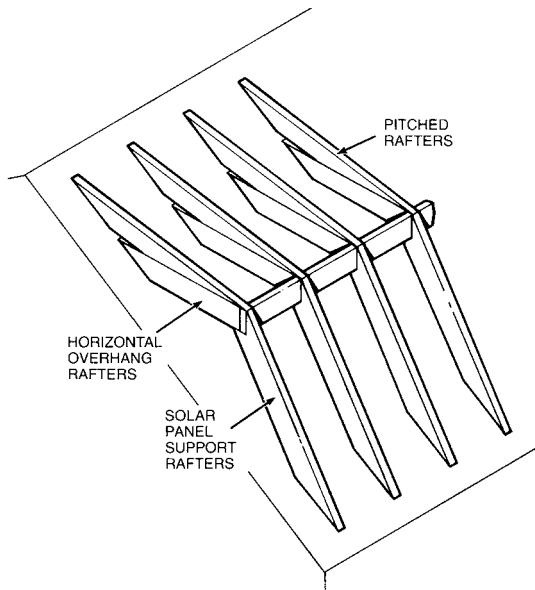

FIG. 20 A Rafter Support Structure for Solar Panels.
STEP 1. RAFTER CALCULATIONS: The pitch for the support rafters, which is really the desired tilt angle for the solar panels, will be needed. If known in degrees, convert it to the nearest inch rise so that the tables may be used. This pitch is found by adding 10 to 15 degrees to your latitude (since this is theoretically the best for heating). In our example, we need a 58° pitch or a 19 inch rise because the latitude of Milwaukee is 43° . (See Table C, page 39). The angle of tilt is not critical, since the efficiency is not appreciably reduced by a small difference in tilt angle from optimum, thus the closest inch rise can be used (see Figures 20 and 21).
STEP 3. RAFTER PATTERN CUTS: If Figures 20 and 21 are carefully studied, the rafter pattern cuts can be easily made following the patterns that were laid out. Set your saw at 90° for all the cuts.